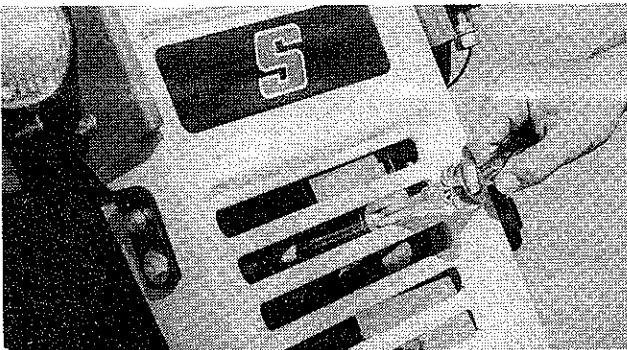

FIGURE 26
1. Remove the spark plug, clean or replace and set the gap at $.030"$. DO NOT SAND BLAST PLUGS, AS THE ABRASIVE PARTICLES LEFT ON THE PLUG MAY DAMAGE THE ENGINE. Plugs may be cleaned by scraping or wire brushing and washing in a solvent or gasoline. (Figure 26)